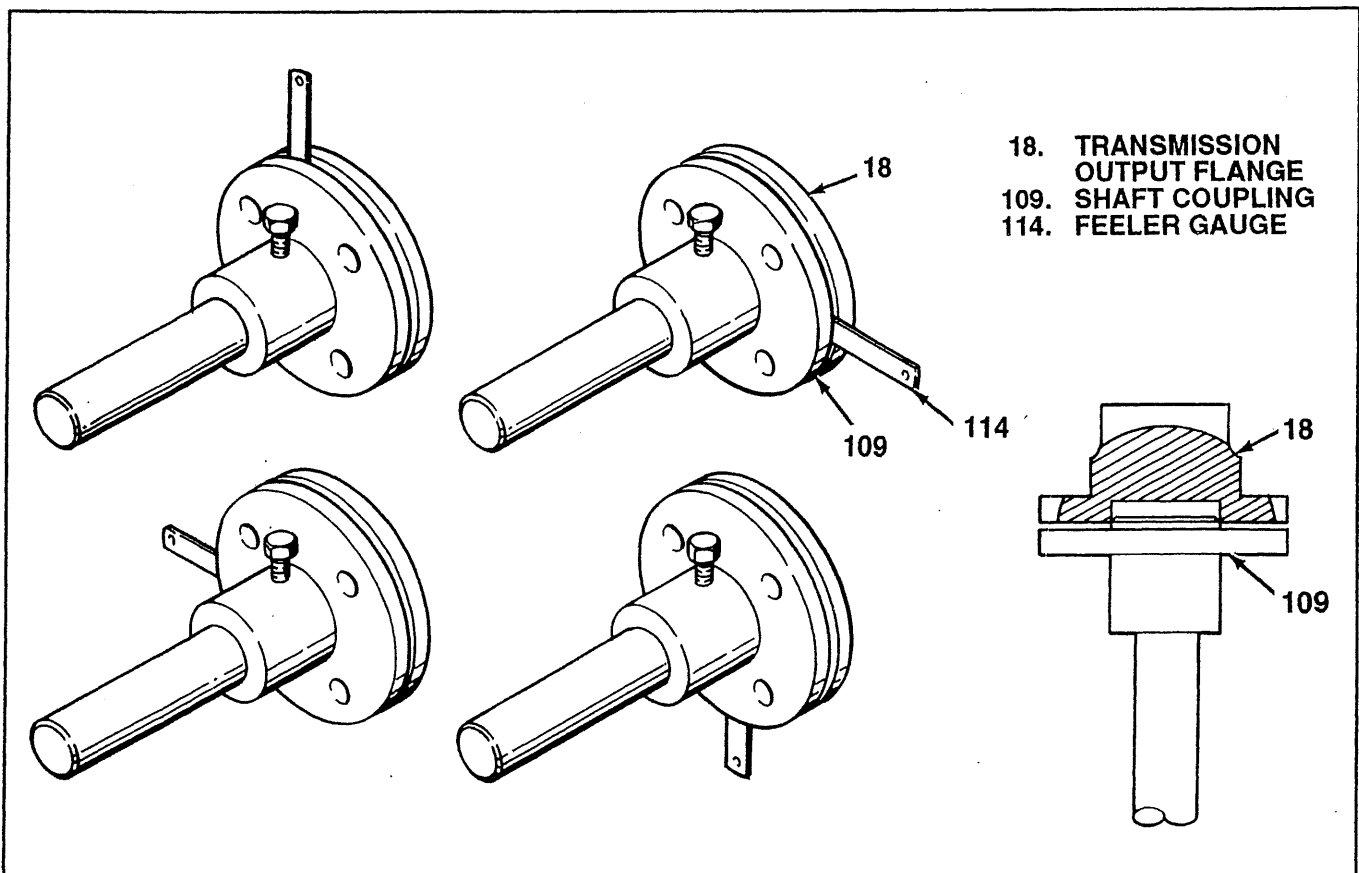

Figure 2-4. Propeller Shaft Alignment
5. Move bridge control lever (111) to its full forward stop position.
6. Position transmission shift lever (207) in its corresponding forward position, making sure detent ball is engaged.
7. Check that cable ball socket (112) aligns with same hole in transmission shift lever as used in step 4. If not, adjust bridge control.
8. Move bridge control lever (111) to its full reverse stop position and repeat steps 6 and 7.
9. Connect control cable to transmission shift lever (207). Move the bridge control lever (111) into each position and check that transmission shift lever moves into its proper detent, for each position.
**2-16. PROPELLER SHAFT ALIGNMENT CHECK** (see figure 2-4) The propeller shaft alignment must be checked whenever any of the following has taken place:
1. With boat in water, remove coupling nuts and bolts and slowly separate shaft coupling (109) from transmission output flange (18). As coupling leaves flange locating boss, check that there is no sudden radial (side to side or up or down) movement. Check that no side loading is required to remate the coupling with the flange boss.
2. With coupling (109) in flange (18) locating boss, draw flanges together using hand pressure only. Using suitable feeler gauge (114), check the clearances between the flanges at four locations, 90 degrees apart. (see figure 2-4) Clearance measurements must not vary from each other by more than 0.003 in. (.076 MM).